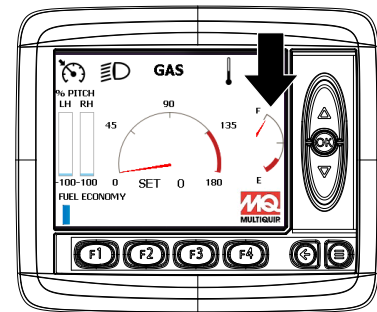

Figure 28. Fuel Check (Gasoline)
- Turn the ignition key to the **ON** position and read the fuel gauge on the digital display (Figure 28) to determine if the gasoline level is low.